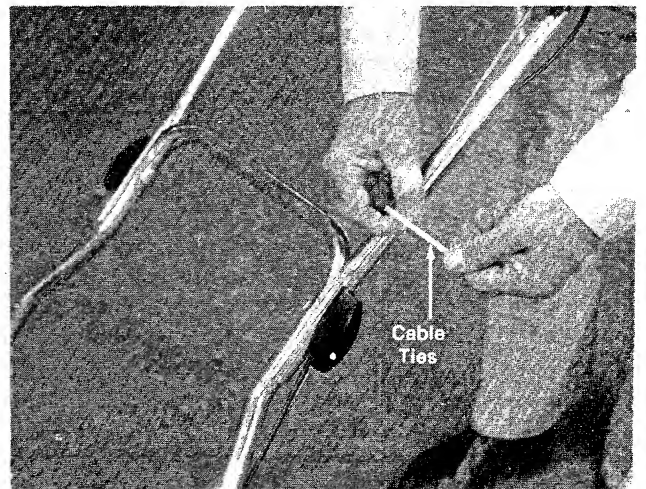

FIGURE 4
6. Secure the throttle wire and clutch wire to the lower and upper handle with the cable ties. (See figure 4.)